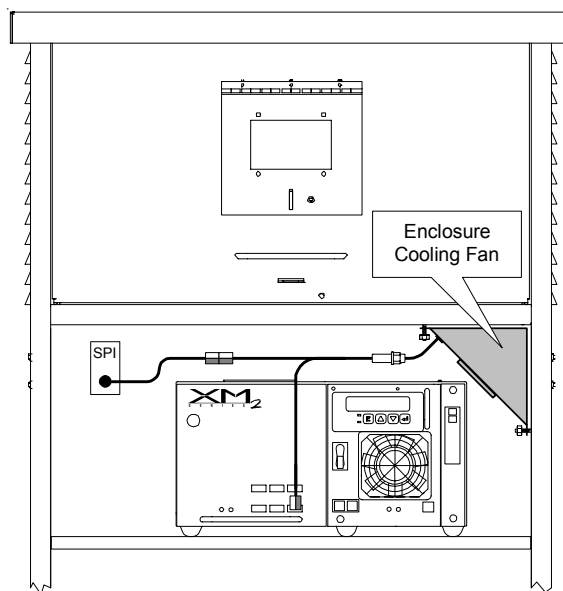

Fig 1-4 Fan Kit
1. Install 3 batteries into the BSM-3 as shown in Fig. 1-4
1. Attach the RTS Probe to the inner side of the center battery in the UPE-M3 enclosure with adhesive tape (see Fig. 1-4).